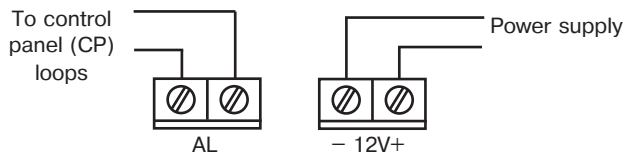

Figure 3
- Fulfill connections in accordance with designation on the PCB (See Figure 3).